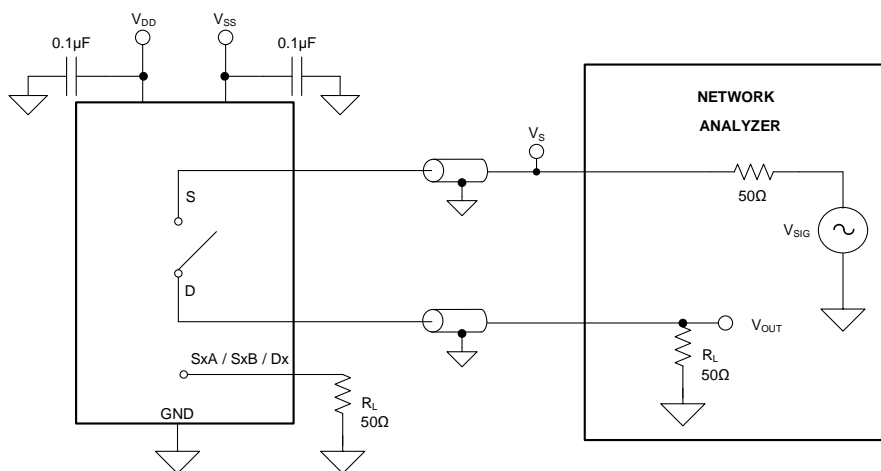

Figure 23. Off Isolation Measurement Setup
Off isolation is defined as the ratio of the signal at the drain pin (D) of the device when a signal is applied to the source pin (Sx) of an off-channel. Figure 23 shows the setup used to measure, and the equation used to calculate off isolation.